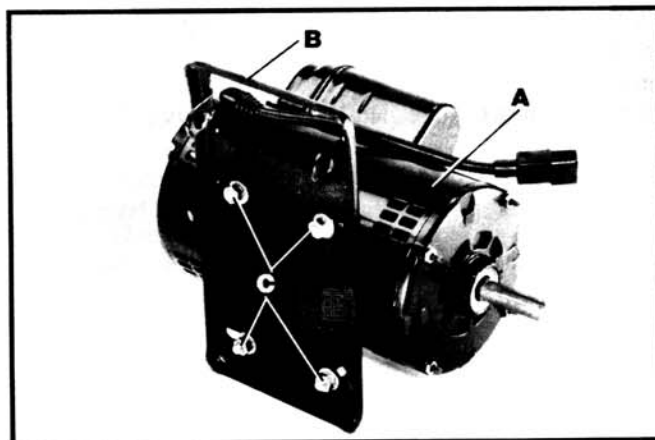

Fig. 7
1. Assemble the motor (A) to the motor mounting plate (B) as shown in Fig. 7, using four carriage bolts, flat washers, star washers and hex nuts (C).